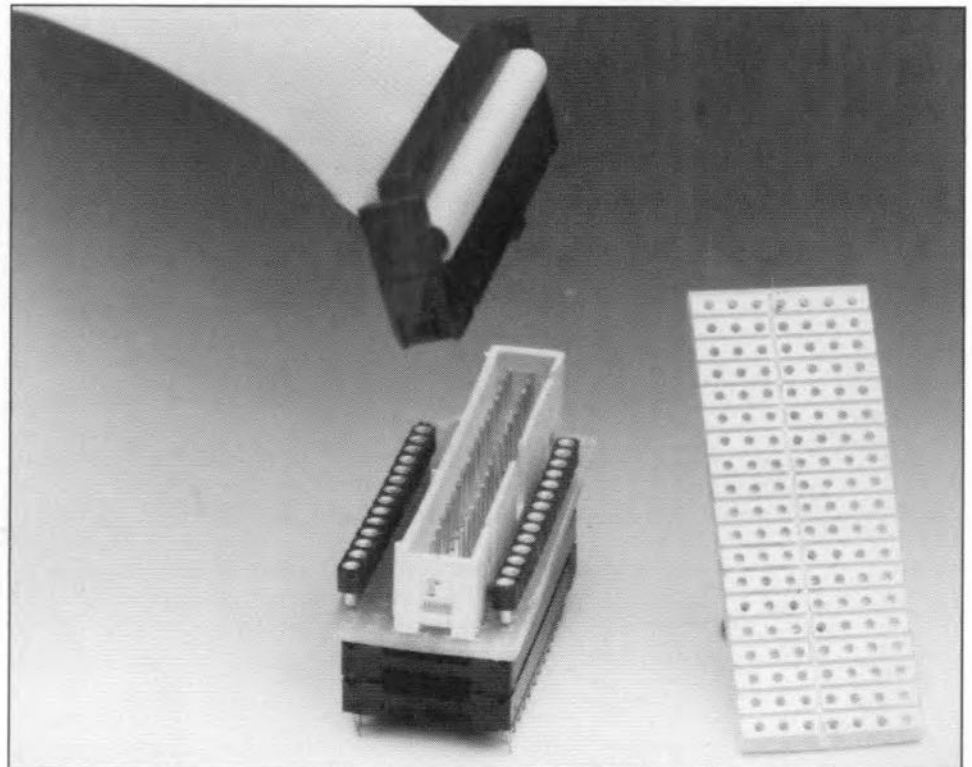

Fig. 5. Illustrating the construction of the home-made EPROM adaptor.
- 28-way DIL adaptor (see Fig. 5)
The EPROM adaptor is home-made. As shown in Fig. 5, it consists of a piece of strip-board, two lengths of IC pin strip, a box header and two 28-way IC sockets. The flatcable from the EPROM emulator is fitted with a 28-way IDC socket. You may want to make one adaptor for each EPROM type, and wire jumpers A13, A14 and A15 appropriately, direct on the socket. Wires 29 to 34 of the flatcable are connected to the RESET generator on the emulator board, and may also be taken to the adaptor socket to create a RESET connection for the application circuit. ■